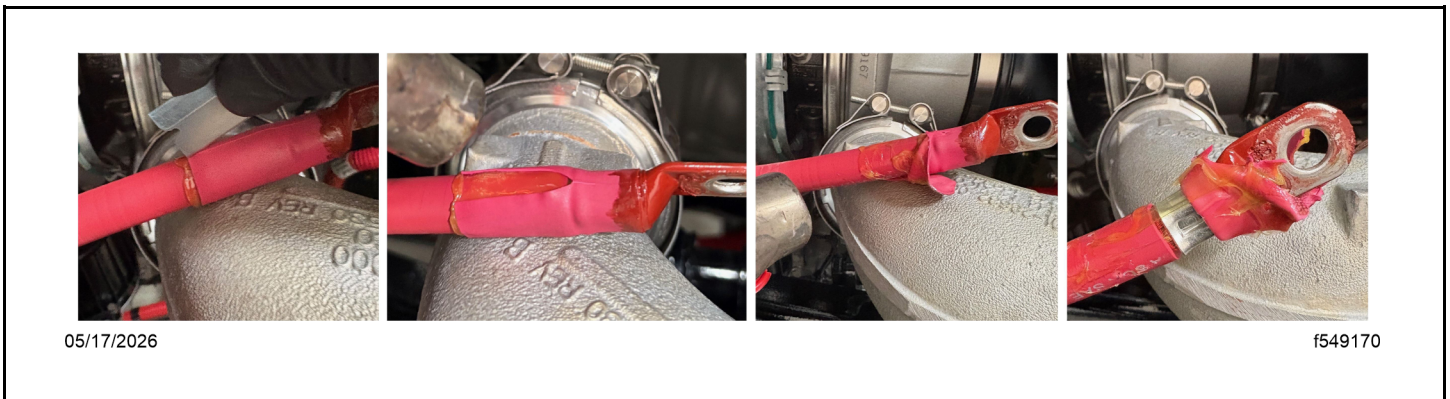

Fig 5, Heat Shrink Removal
- b. Remove the original heat shrink. To do so, heat it, score it, and continue to heat it until the score splits and the adhesive softens. See Fig. Fig. 5.